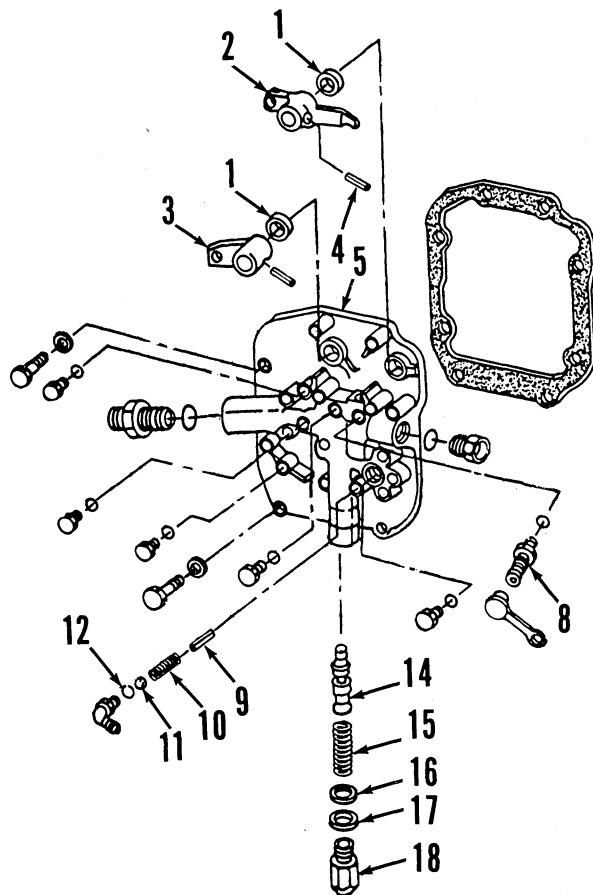
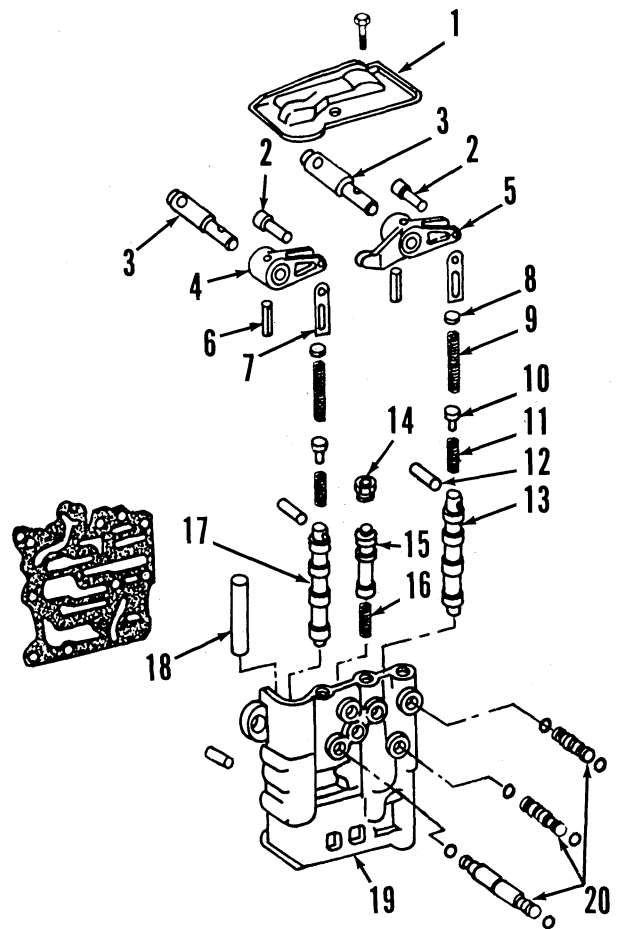

Fig. 103—Exploded view of pressure regulating valve outer housing assembly. Refer to Fig. 103A for inner valve housing components.
Fig. 103A—Exploded view of clutch valve inner housing assembly.
(18—Fig. 103) and add shims (16) to increase pressure as needed. One shim should change pressure approximately 5 psi (35 kPa).
98. The clutch pressure regulating valve housing is mounted on the left side of the transmission housing. The pressure regulating valve (14—Fig. 103), pto
clutch valve (13—Fig. 103A), traction clutch control valve (17) and clutch shut-off valve (15) are contained in the valve housings. The clutch shut-off valve prevents tractor from moving until clutch pedal is depressed and released. The valve resets itself to neutral each time engine is stopped.
Remove plug (18—Fig. 103), shims (16), spring (15) and pressure regulator valve spool (14). Inspect valve spool and housing bore for nicks, burrs or scoring. Free length of spring should be 5.43 inches (138 mm) and working load should be 55-67 pounds (243-297 N) at 4.48 inches (114 mm). Regulating valve pressure setting is adjusted using shims (16). Refer to paragraph 95.
Drive out roll pins (4—Fig. 103) and remove control valve arms (2 and 3). Remove cap screws securing regulating valve housing to control valve housing and separate housings. Remove valve shield (1—Fig. 103A). Remove valve pins (2), shafts (3) and operating arms (4 and 5). Remove links (7), thrust washers (8), springs (9 and 11), pins (12) and valve spools (13 and 17). Keep parts from each valve assembly separated as they are not interchangeable. Note that traction clutch valve springs are color coded red. Remove pto lever lock piston (18). Remove plug (14) and clutch shut-off valve (15).